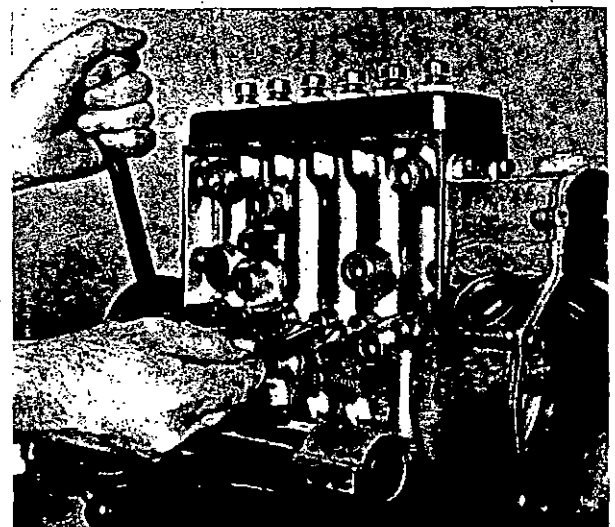

Fig. 7 Fitting tappet holders
5. Referring to fig. 7, remove the six tappet access screws from the pump casing. In turn, bring each tappet to TDC and fit a holder 1 681 115 12F to lift and retain the tappet clear of the cam lobe. To do this, proceed as follows, dependent on the pump stroke: